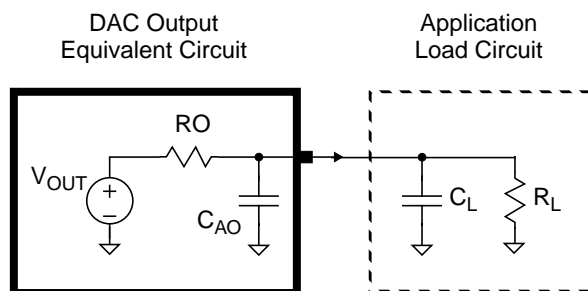

Figure 68. DAC Output Equivalent Circuit
For the worst case calculation, if the output resistance is 4 K $\Omega$  (maximum limit), the external load (RL) must not be lower than 2 M $\Omega$  (see Figure 68). In this case, the error caused by the load is lower than 1/2 LSB.
The DAC output settling time depends on the external load characteristics and the required accuracy. Figure 68 shows the equivalent circuit used for evaluating DAC behavior. Each DAC output has a typical output impedance of  $3\text{ K}\Omega$ . For example, if the total load is a  $50\text{ pF}$  capacitor only, the output settles to  $1/2\text{ LSB}$  within  $1\text{ }\mu\text{s}$ . The total load capacitance is comprised of the analog output capacitance ( $C_{AO}$ ) and the external load capacitance ( $C_L$ ).